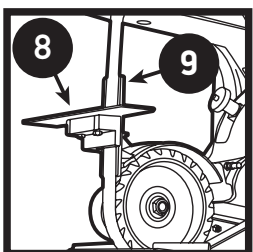

Figure 6
12. Attach chain saw bar grinding table with two bolts to the vertical platen. (Figure 6).